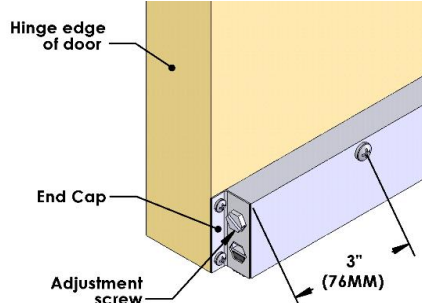

Fig. 2
8. When the screw is properly adjusted, position the end cap with the hex hole over the adjustment screw and attach to the door to lock the setting. (Fig. 2)